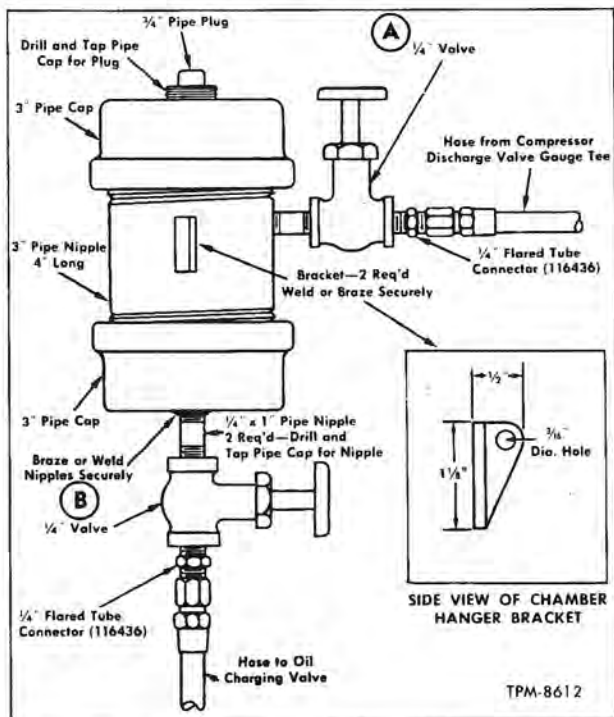

Figure 130—Fabricated Chamber for Adding Oil to Compressor
Figure 130 illustrates a chamber which can be fabricated locally using readily available parts. It is easy to visualize many other methods of constructing such a chamber, however, the general principles of the one shown in figure 130 should be followed.
1. Close both valves ("A" and "B," fig. 130) on oil chamber.
3. Connect a hose of sufficient length from upper valve (A," fig. 130) of oil chamber loosely to high pressure service fitting. Connect another hose from lower valve ("B," fig. 130) of oil chamber to oil charging valve at bottom of compressor.
6. Open both shut-off valves ("A" and "B," fig. 130) on pressure chamber, then watch oil level in compressor sight glass. When oil level is 1/3 to 1/2 way up on compressor sight glass, quickly close chamber valves. Close the oil charging valve at compressor and disconnect line quickly from the high pressure service fitting.